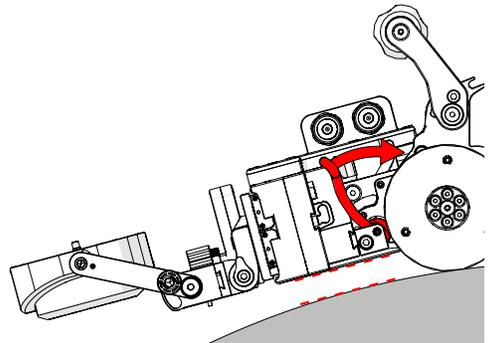

Fig. 69 - Parallel with scan surface
4. Align the Raster Arm HT parallel with the tangent of the scan surface (Fig. 69).
5. Engage the swivel mount levers to lock the Raster Arm HT position (Fig. 69).